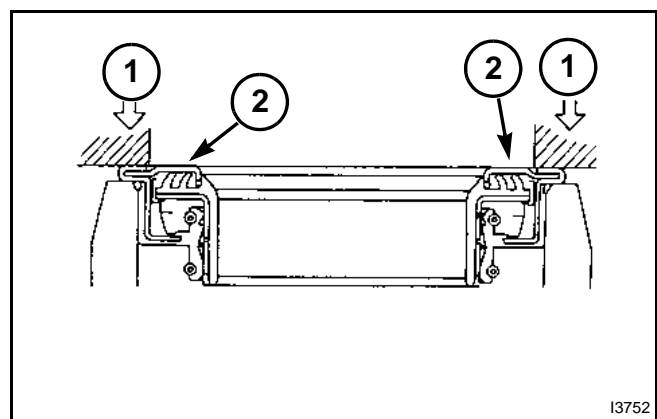

FIG. 48
FIG. 48: When installing unitized seals on the wheel shaft cover and the rotating part between the final drive housing, apply force only to the outer circumference of the seal as shown at (1).